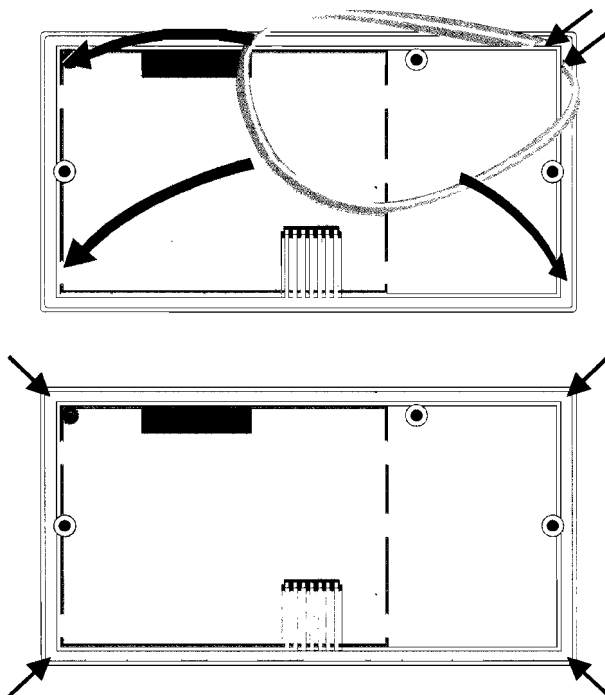

Fig. 13. Attaching the seal
3. Attach the seal as shown in Fig. 13.